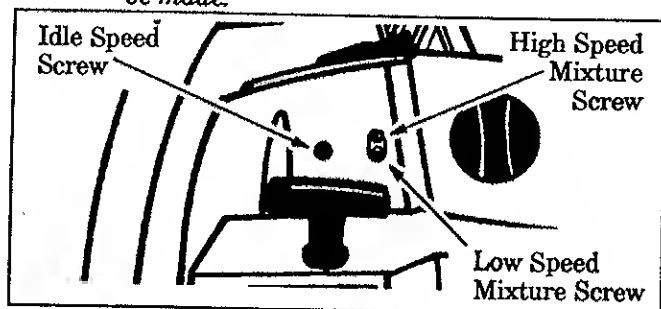

Figure 37
- d. Locate the three (3) carburetor adjusting screw openings to the right of the air filter cover. Figure 37.
- e. Start the engine and allow engine to idle three (3) minutes to warm up. *The engine must be at operating temperature for proper adjustments to be made.*